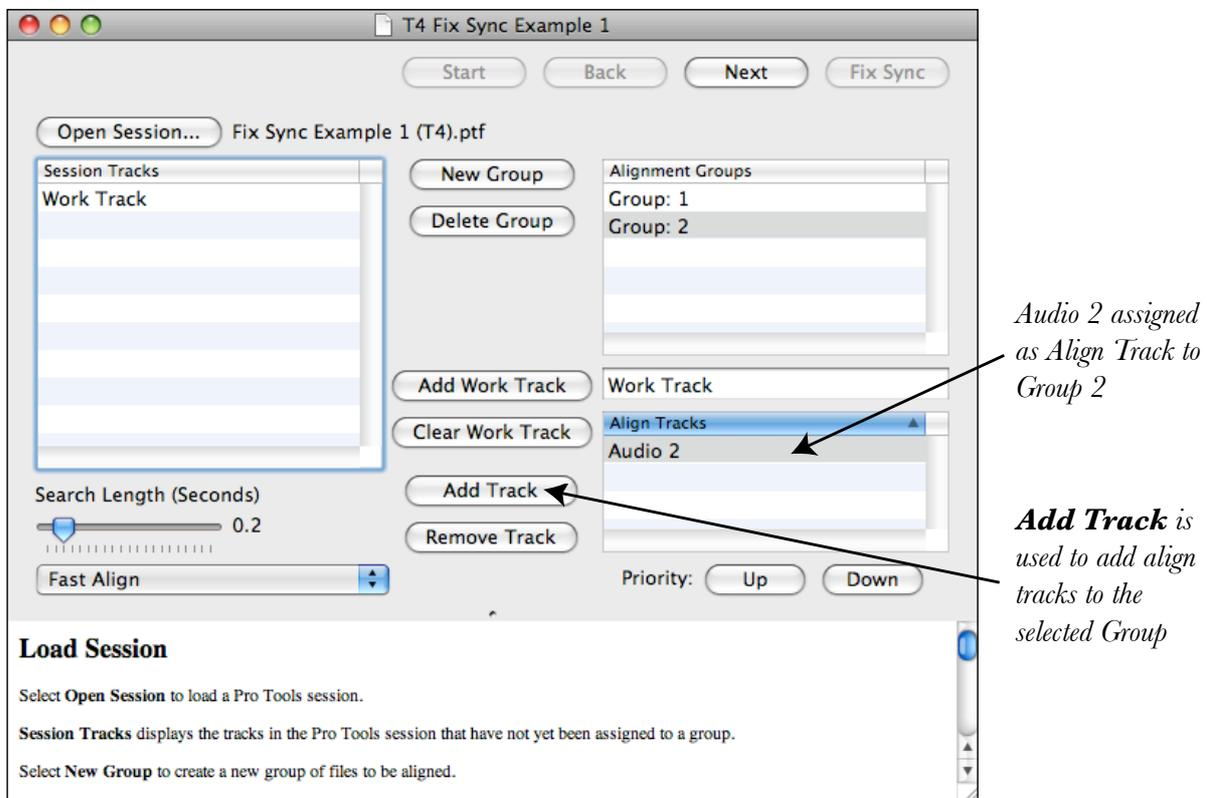

Figure 20 Audio 2 track assigned to Group 2
- If you are following the example, the Fix Sync window should now look as shown in Figure 20.